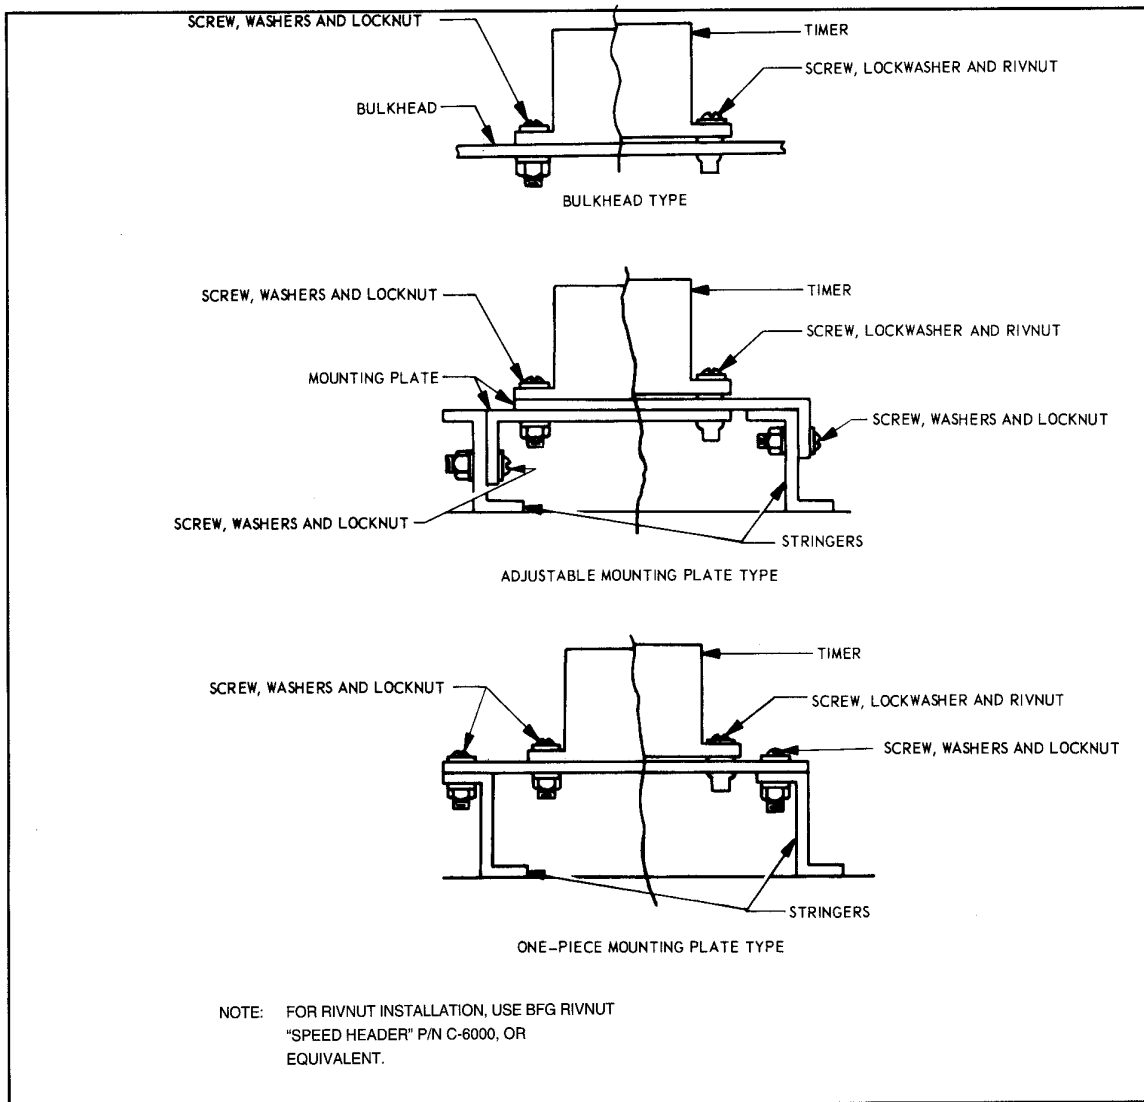

Figure 19 - Timer Mounting Methods
2. Install timer per one of following methods (**Figure 19, this page**).